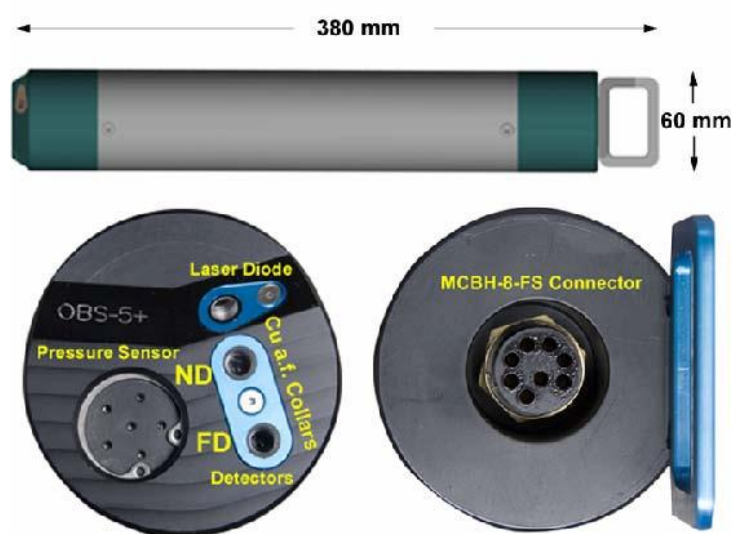
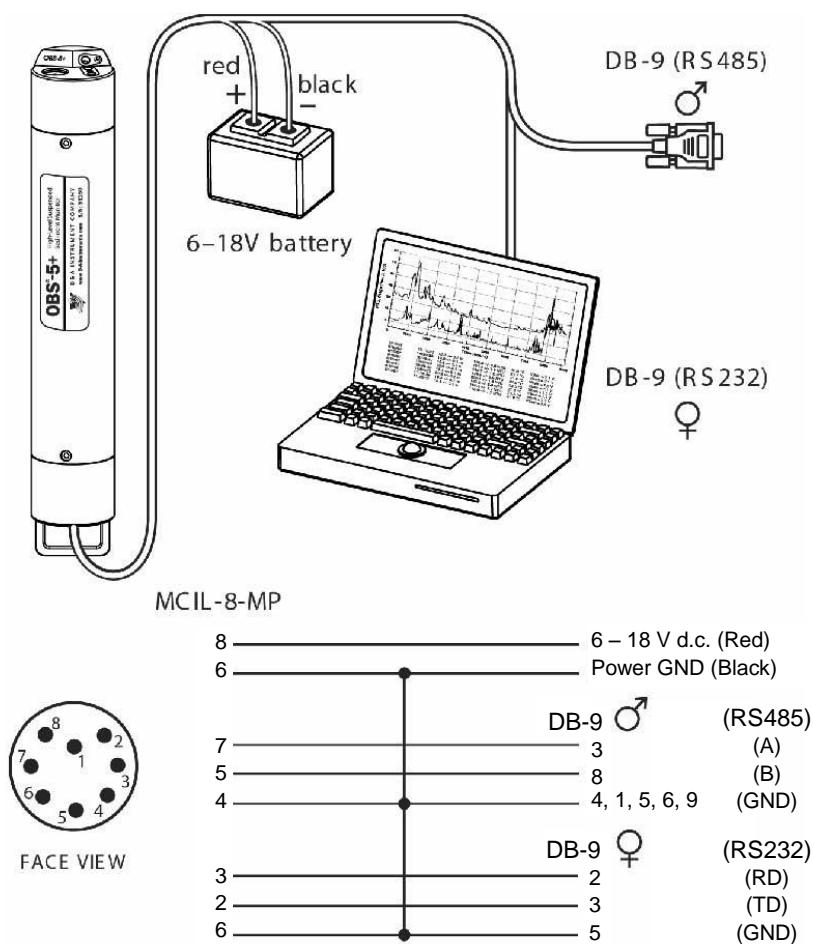

Figure 4-1. Dimensions (top), sensor end cap with copper antifoulant (Cu a.f.) collars (left) and connector end cap (right)
Figure 6-1. Electrical connections
Figure 4-1 shows the dimensions of the OBS-5+, the sensors in the sensor end cap, and underwater connection. Detailed specifications are provided in Section 5, *Specifications*. The OBS-5+ can be operated in Survey or Cyclic Modes. In Survey Mode, the unit sends data via RS-232 or RS-485 to a PC at two hertz, and in Cyclic Mode, it logs as many as 200,000 scans of time, date, depth, and $g\ L^{-1}$ in flash memory (one sample per hour for 23 years). When sampling continuously, the unit will run about 125 hours on three C-size alkaline batteries in 20°C water (about two weeks of eight-hour survey days). When using the instrument for surveys, the data are captured by a PC running the *OBS-5+ software*. Pressure is measured with a silicon strain-gauge pressure sensor and the depth of the instrument is calculated from water density and barometric pressure entered by the operator.
The OBS-5+ will usually be towed with a cable harness for surveys. The serial cable can tow the OBS-5+ without a depressor weight or vane as long as the connector is strain relieved. Strain relief can be provided by attaching the cable to the stainless steel housing (Figure 4-1) with a cable grip and a length of 3 mm (1/8 in) wire rope. Install a cable clamp with a 0.5 m wire rope to the serial cable, and clamp the wire rope to the pressure housing with two stainless steel hose clamps, providing a small loop of slack cable to absorb towing forces. The unit can be powered with an external battery, as shown on Figure 6-1, and the serial output can be transmitted by either RS-232 or RS-485 protocols. The latter protocol is recommended for cable lengths greater than 25 m. An RS-485/232 serial converter is provided with each unit. An RS-232 to USB converter is an available option.
- 4) Connect the OBS-5+ to a PC with the test cable (Figure 6-1).